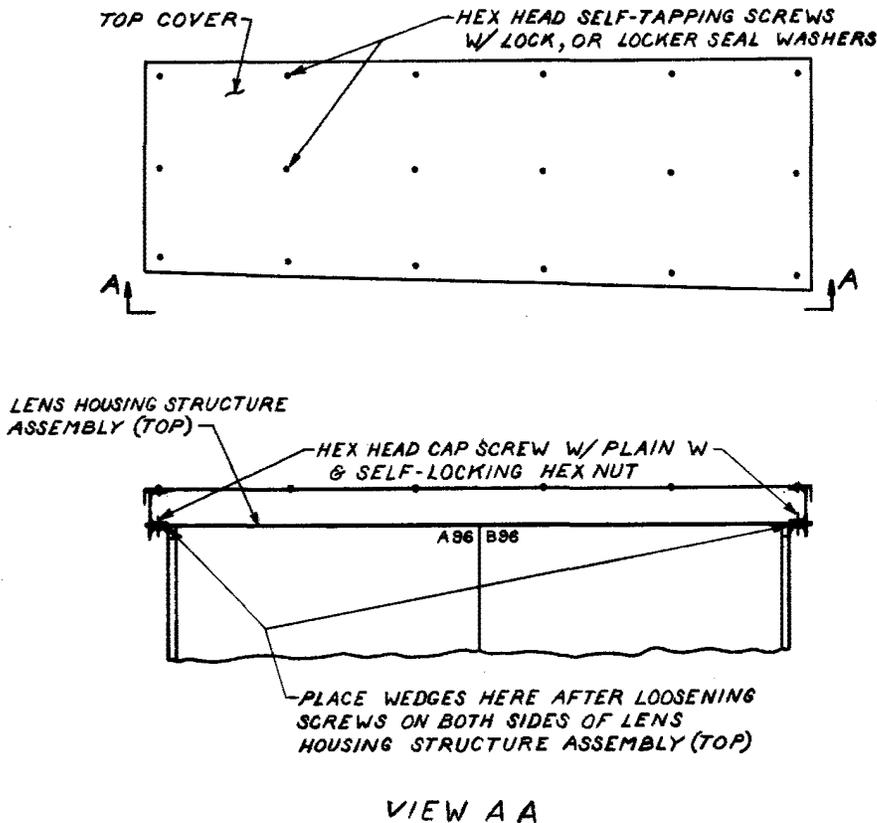

Fig. 4 - Top Cover
*Note:* Should the elements offer resistance, it will be necessary to remove the top cover of the antenna (see Fig. 4) and then loosen the cap screws securing the lens housing structure assembly to provide sufficient clearance for the removal of the elements (see view A-A of Fig. 4).